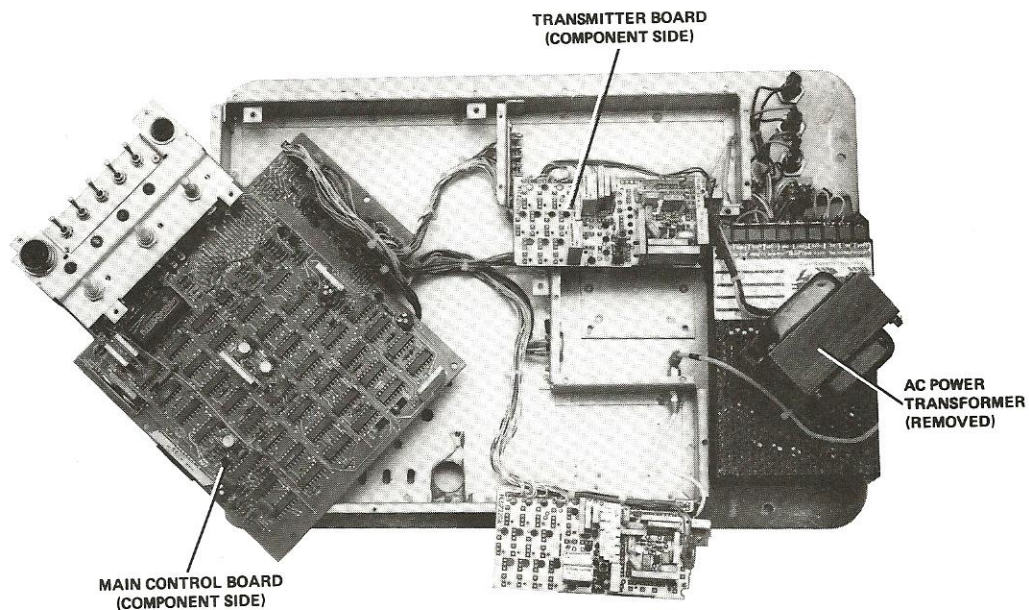

Figure 4-5. Power Transformer Removed
c. **Power Supply Removal (Figure 4-5)**